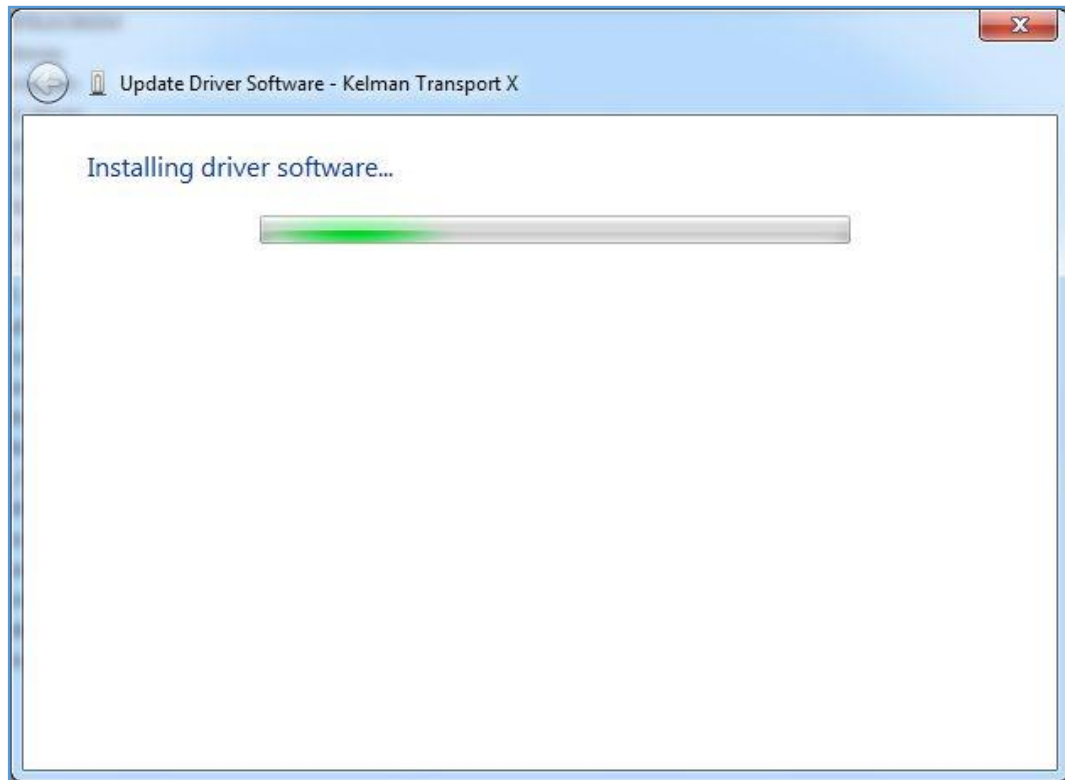

Figure A-16: Installation progress bar
- The Installing Driver Software progress bar displays as shown in Figure A-16.